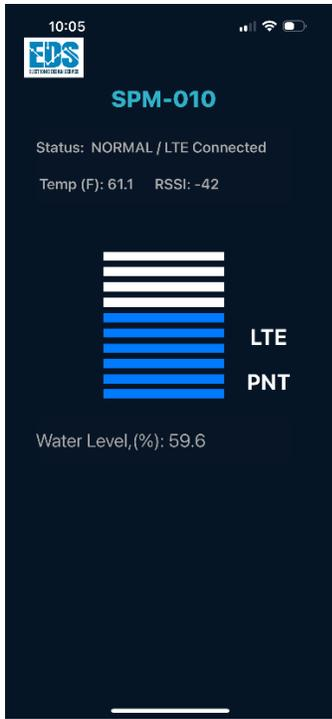

Figure 35 LTE Operation Mode
*See Figure 35: LTE Antenna Adjustment Mode Interface*